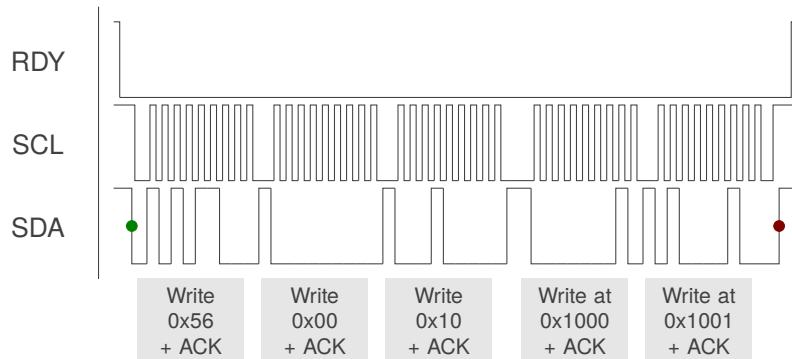

Figure 12.2: *I²C Write Example — Write Two Bytes to System Control Registers 0x1000 and 0x1001*
The write operation is displayed in Figure 12.2. Similar to the read transaction, when the RDY interrupt is triggered, the master initiates communication by sending a start condition followed by the device address and a write command. The IQS396 responds with an acknowledgement, after which the master device transmits two bytes defining the register address. The slave acknowledges the register address bytes. The master may then write a series of bytes to the register address and the addresses that follow, with each byte being acknowledged by the slave. The write operation is ended when the master produces a stop condition.
- > Write the new values back over I²C, as shown in Figure 12.2.